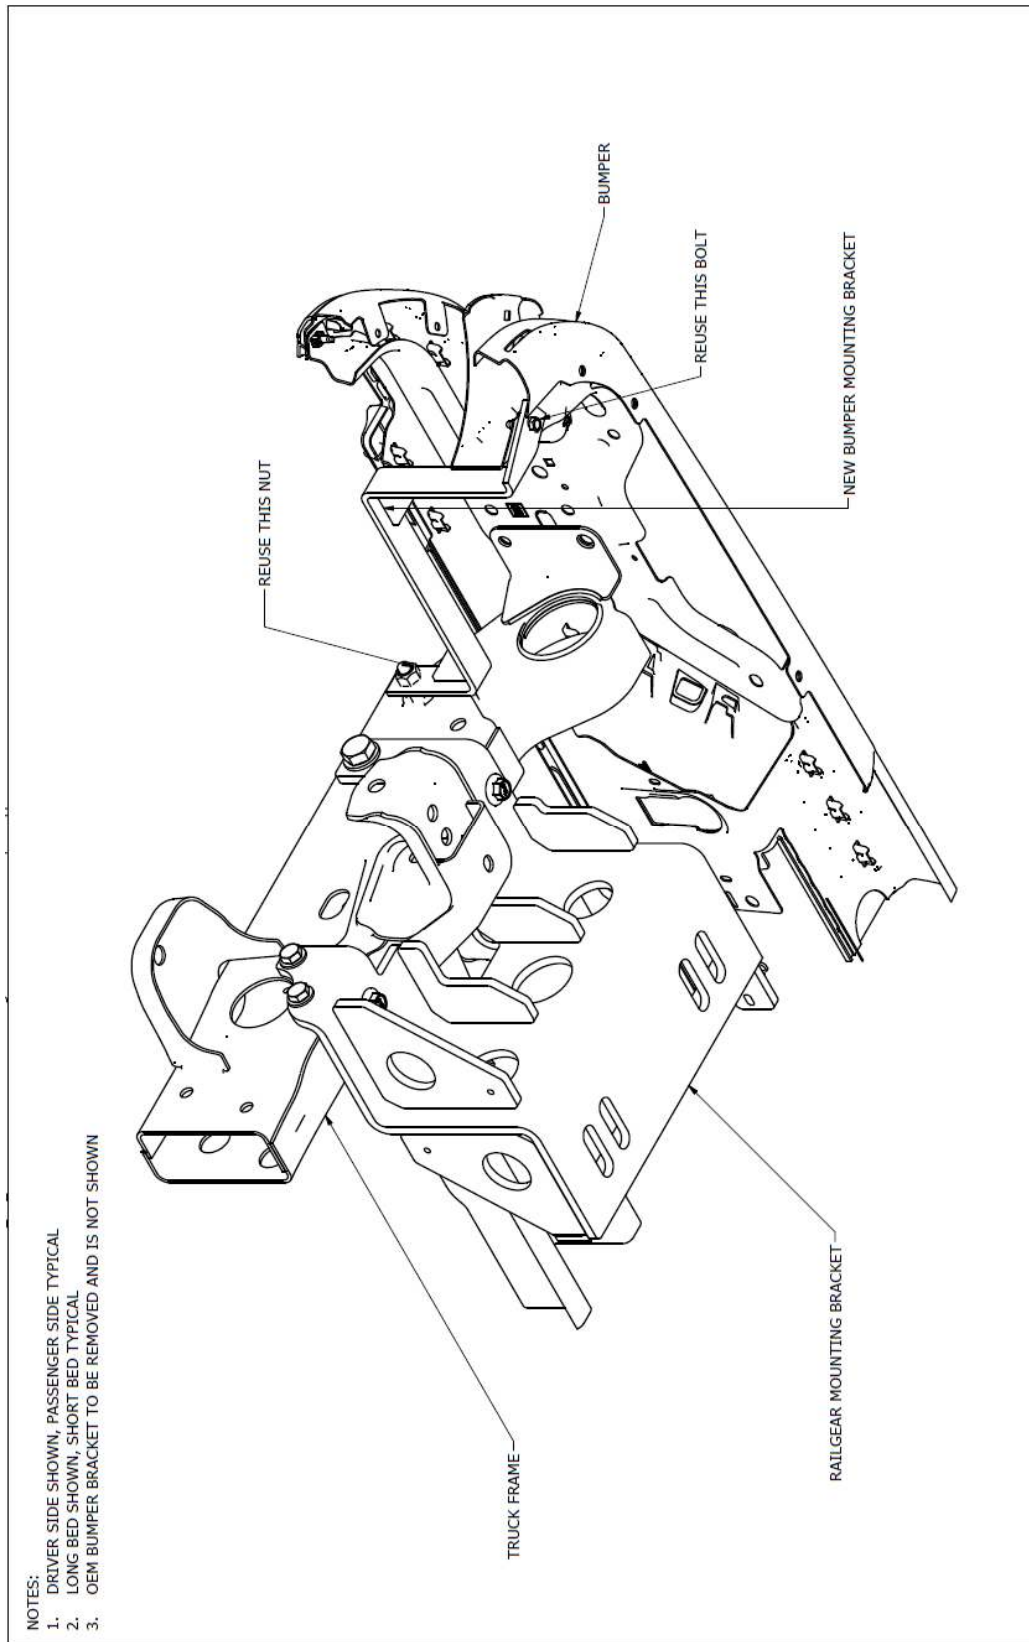

Figure 2: Bumper Mtg Brkt Placement
8. Reinstall bumper with new bumper support brackets using OEM hardware, as shown in Figure 2.